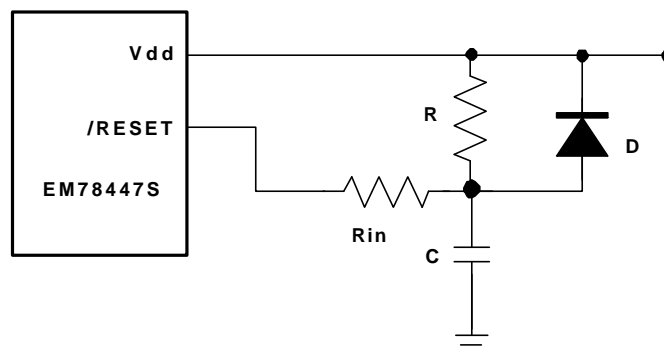

Fig. 15 External Power-Up Reset Circuit
For some applications that do not need a very precise timing calculation, the RC oscillator (Fig. 15) offers a lot of cost savings. Nevertheless, user should be aware that the frequency of the RC oscillator is influenced by the supply voltage, the values of the resistor (R_{ext}), the capacitor (C_{ext}), and even by the operation temperature. Moreover, the frequency also changes slightly from one chip to another due to the manufacturing process variations.
The circuit shown in Fig.15 implements an external RC to produce a reset pulse. The pulse width (time constant) should be kept long enough to allow Vdd to reach minimum operation voltage. This circuit is used when the power supply has a slow rise speed. Because the current leakage from the /RESET pin is about $\pm 5\mu\text{A}$, it is recommended that R should not be great than 40 K. In this way, the voltage at Pin /RESET is held below 0.2V. The diode (D) acts as a short circuit at power-down. The capacitor, C, is discharged rapidly and fully. Rin, the current-limited resistor, prevents high current discharge or ESD (electrostatic discharge) from flowing into Pin /RESET.